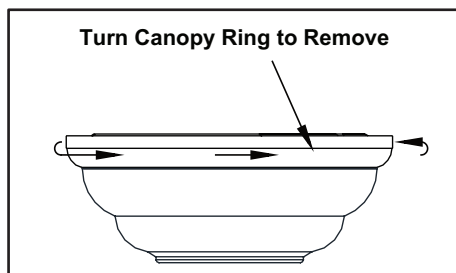

Figure 5
1. Remove the canopy ring from the canopy by turning the ring to the right until it unlocks. (Figure 5)